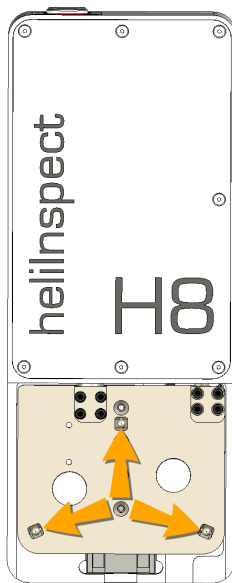

Figure 8: Position of the V-grooves on the housing body of the heliInspect™ H8
- e. Fix the heliOptics™ WLI8 on the two magnet points on the inside of the housing body for the measurement head (» Fig. 8).